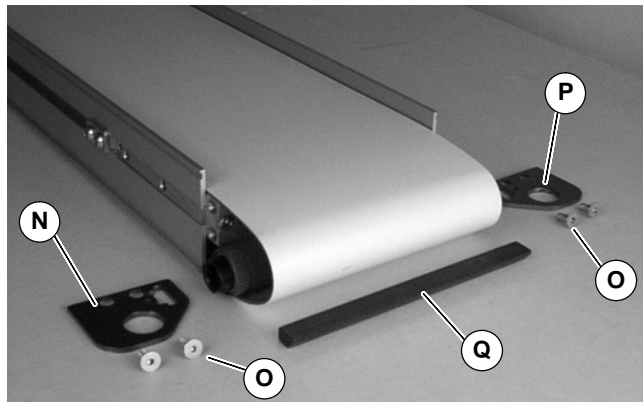
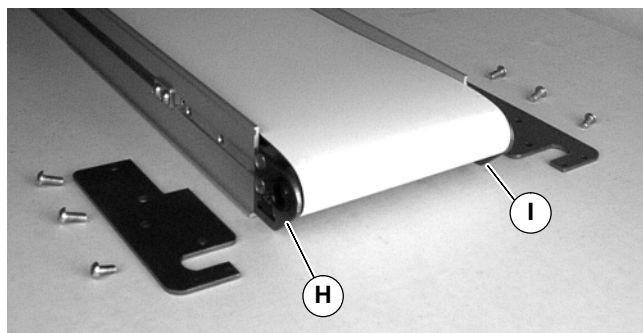

Figure 9
Figure 10
5. Remove and discard existing left (N of Figure 9) and right (P) pulley tail plates. Remove and retain bottom wiper (Q).
6. Install new left (H of Figure 10) and right (I) pulley tail plates using original screws (O of Figure 9). Tighten screws to 35 in-lb (4 Nm). Re-install bottom wiper (Q of Figure 9).